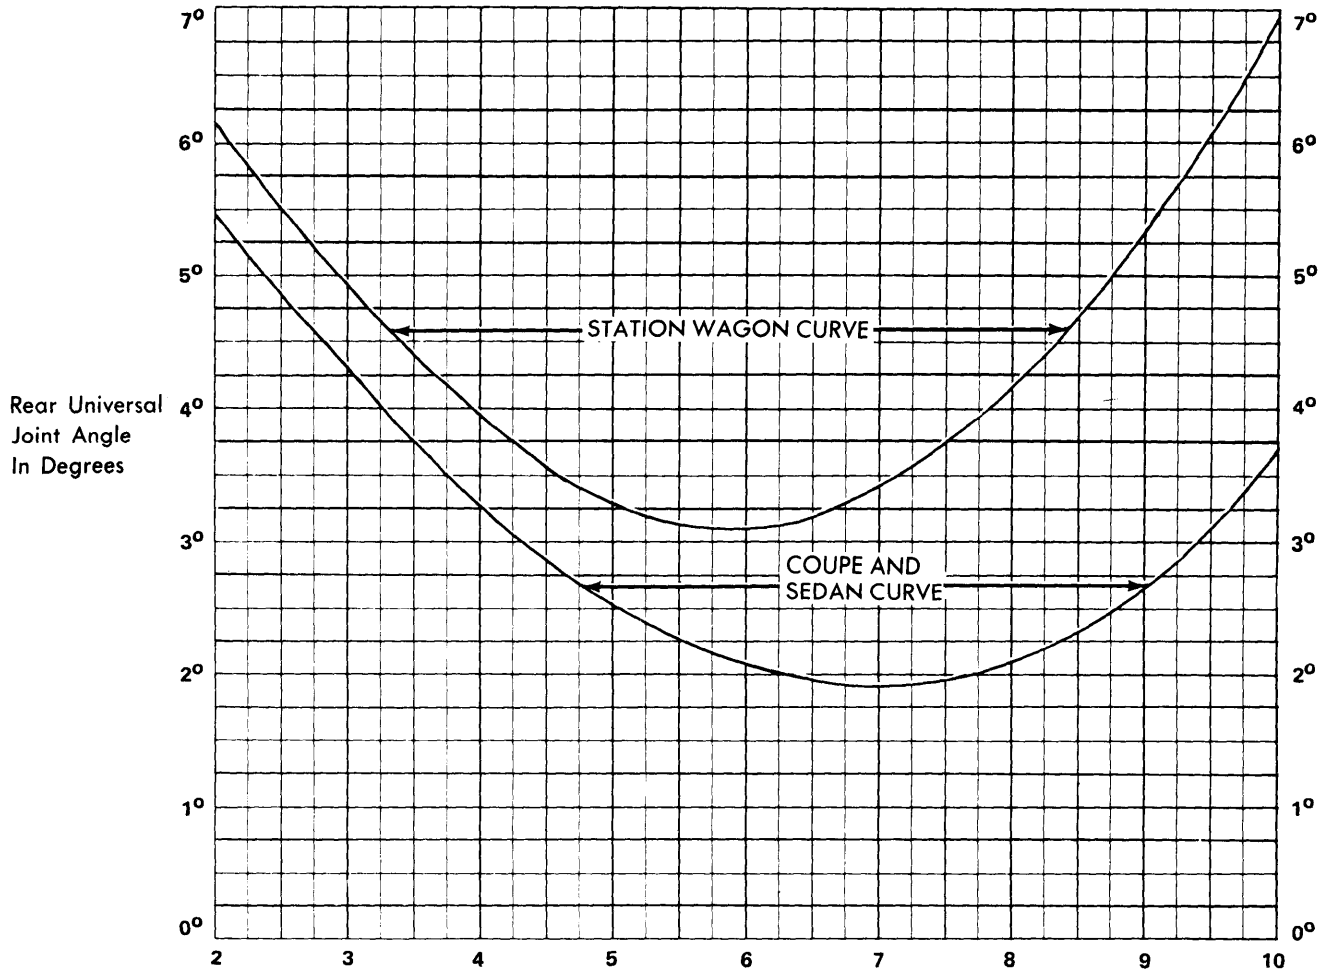

Fig. 3 Matador Rear Universal Joint Angle Chart
- 4) Difference between rear axle yoke bearing and rear propeller shaft bearing readings will give rear universal joint angle. For specified Matador rear universal joint angle, see chart Fig. 3. Rear "U" joint angle or all other models is $+2\frac{1}{2}^{\circ} \pm \frac{1}{2}^{\circ}$.